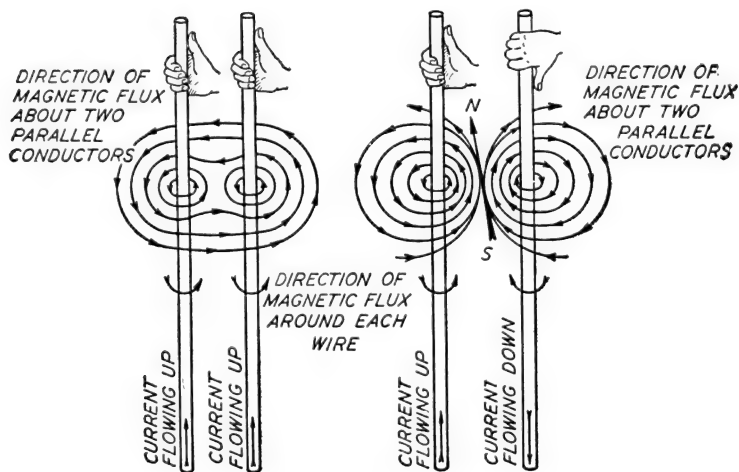

Fig. 13. Direction of Lines of Force about Two Parallel Conductors with Current Flowing in the Same Direction and in Opposite Directions
**Magnetic Flux or Field about Two Parallel Conductors.** When each of two parallel conductors carries an electric current, flowing in the same direction, there is a tendency for the two conductors to be drawn together. In the left-hand part of Fig. 13 the lines of force encircle each conductor in the same direction and the resultant field is an envelope of lines tending to pull the conductors together.
The condition which exists when two parallel conductors carry current in opposite directions is shown in the right-hand part of Fig. 13. The magnetic lines are circles, but these circles are not concentric either with one another or with the conductor. When the conductors are separated, the area through which the flux passes is increased, so that the magnetic circuit in this case tends to separate the conductors and thus conforms itself so that the magnetic flux is a